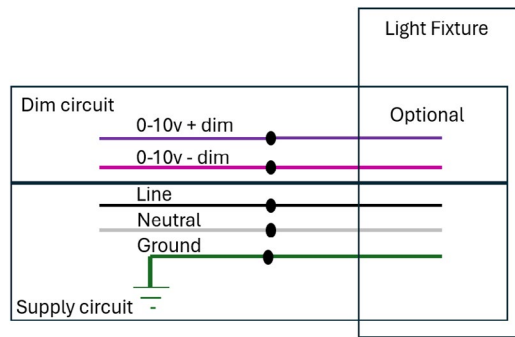

FIGURE 4
- For line voltage installation, connect wiring per **figure 4**.